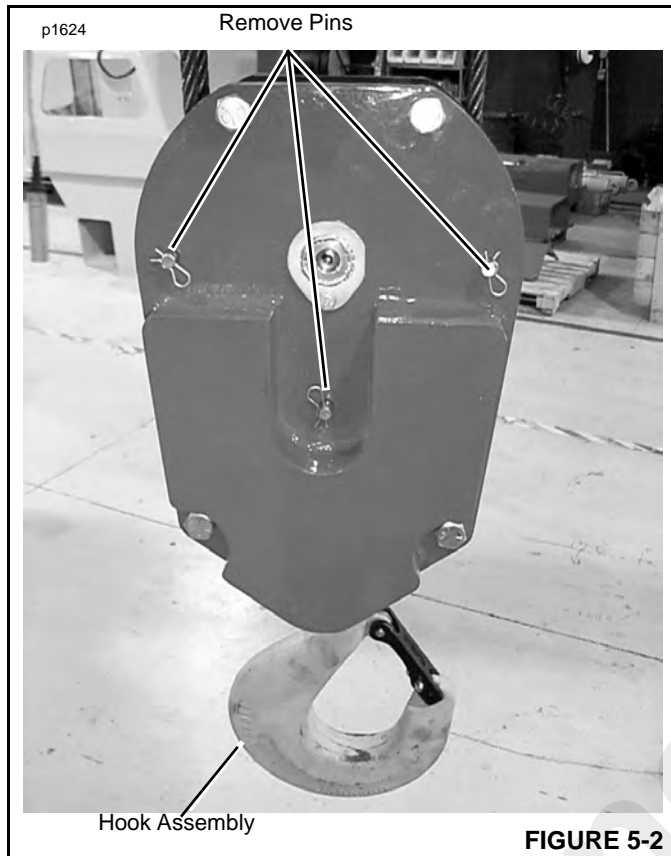

FIGURE 5-2
Ensure that the hook assembly's safety latch (Figure 5-2) does not get damaged.
3. Remove the three pins as indicated in Figure 5-2. Remove the hook assembly.
1. Remove the three pins from the hoist block assembly. See Figure 5-2.